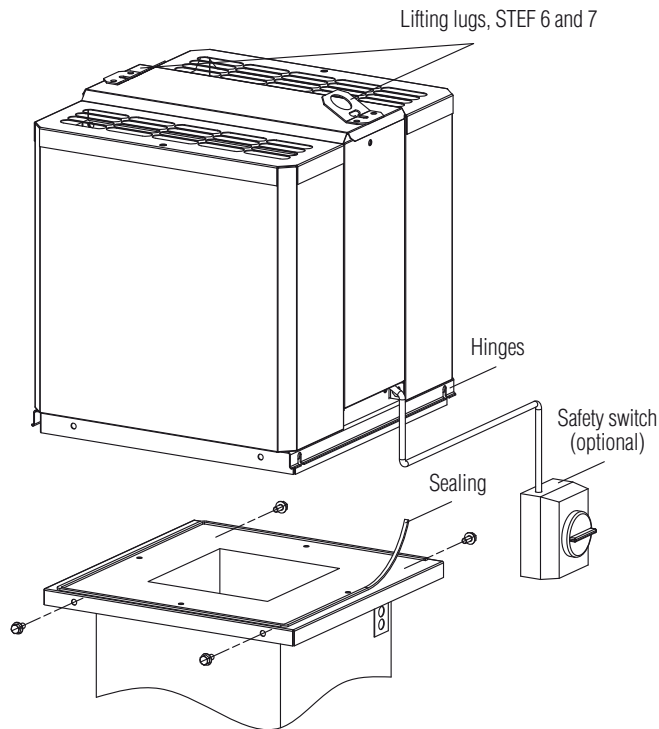

Fig. 1
1. Fit the sealing strip to the top edge of the roof duct as shown in Figure 1.
2. Lift the STEF or STOF roof fan onto the roof duct. Use the lifting lugs for the larger sizes if necessary. See Figure 1.
- the safety switch and the cable gland in the roof duct are on the same side. This determines the position of the hinges. See Figure 1.